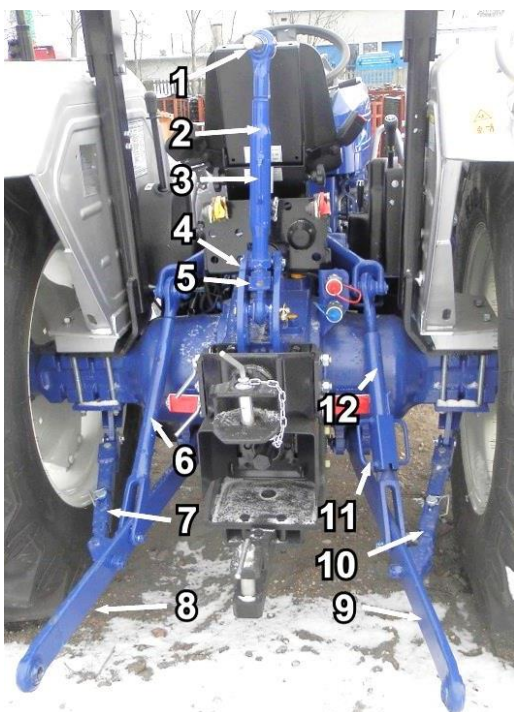

Fig. 4.6.1. Three-point linkage
The tractor lift hydraulic system with three-point linkage (see Fig. 4.6.1) facilitates control of implements and machines from operator's place.
- move back the tractor to the implement aligning the ends of lower links (8, 9 - Fig. 4.6.1) with the implement hitch pins,
- as required adjust the height of the right hand lower link (12 - Fig. 4.6.1) with the leveling handle (11 - Fig. 4.6.1) and attach to the implement hitch pin,
- attach the top link (2 - Fig. 4.6.1) to a selected connection of the lift rocker and then to the implement cross shaft adjusting its length as necessary,